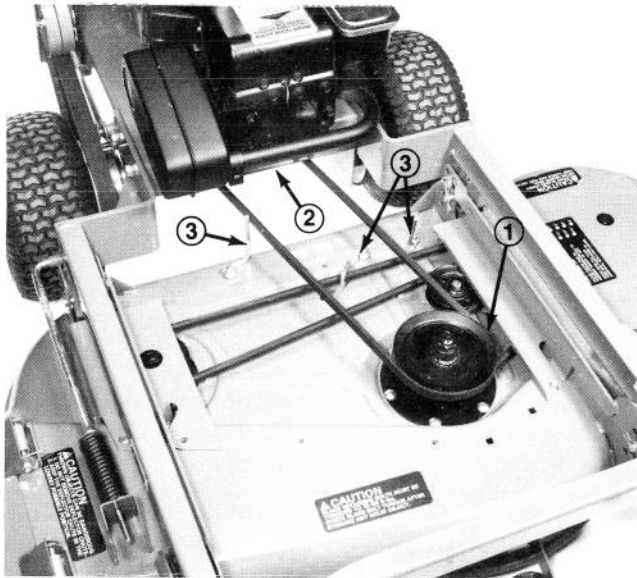

Figure 3
2. Route belt around deck drive pulley and engine clutch pulley (Fig. 3).
4. Check position of belt guides. Guides should be positioned so rod edges are approximately .10 inch from back side of each belt (Fig. 3).